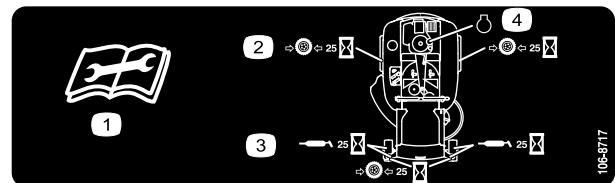

Figure 25
3. Clean the grease fittings (Figure 24 and Figure 25) with a rag. Make sure to scrape any paint off of the front of the fitting(s).
4. Connect a grease gun to each fitting (Figure 24 and Figure 25). Pump grease into the fittings until grease begins to ooze out of the bearings.